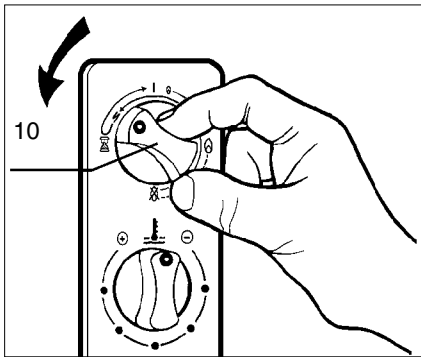

Fig. 1
- 2) (fig. 1) With all hot taps closed, light the heater by turning the gas control knob to the position marked « ⚡ ». If the pilot, which can be seen through the window, does not light, leave the knob in the « ⏸ » position (horizontally) for a few moments. Return the knob to the vertical « | » position and repeat.